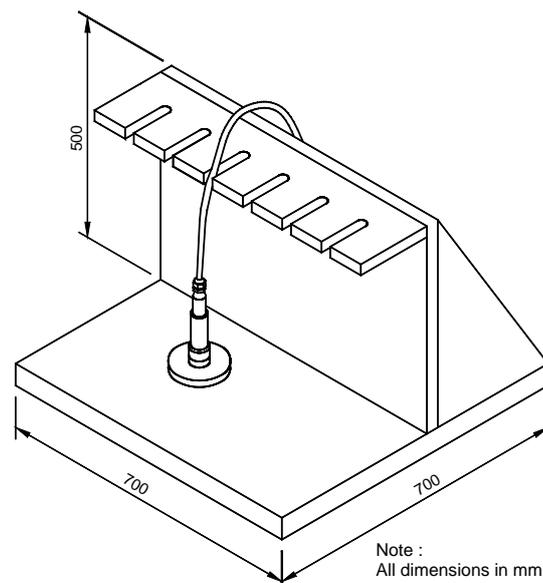

Figure 3.1 – cable jointing fixture (all dimensions in mm)
- Fixture for jointing upto three jack-out pressure cells (refer figure 3.1)